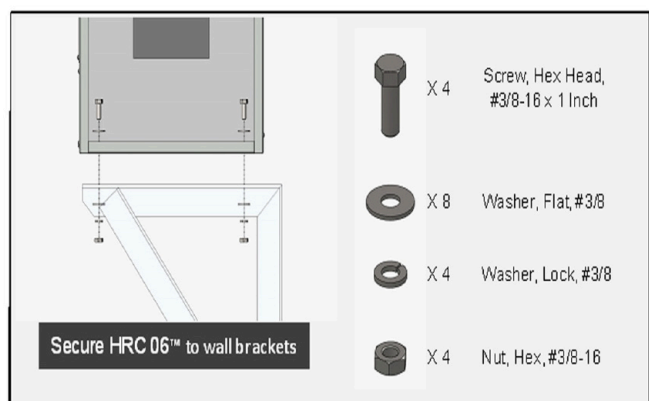

Figure 3
STEP 5: Using an approved lifting means (forklift, cable hoist, etc), safely lift the HRC06™ unit onto the brackets and secure using the provided hardware (see Figure 3 on Page 6).